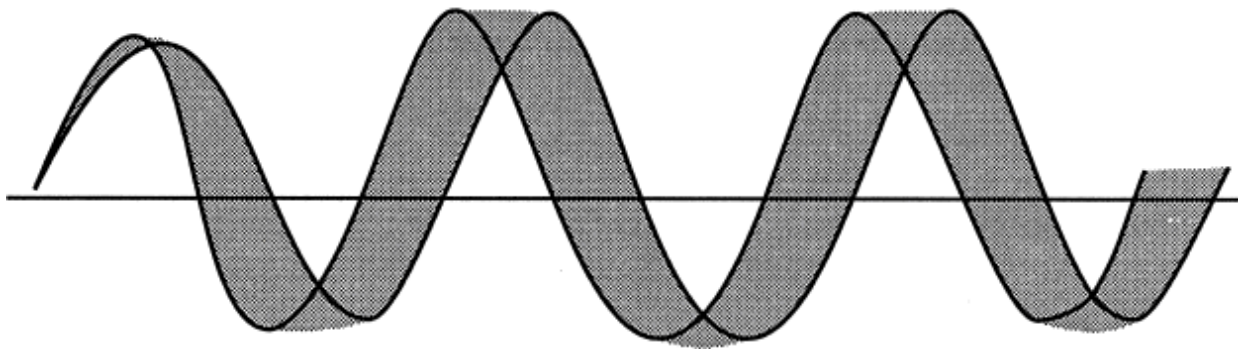

Fig. 5-2 How FM looks on an oscilloscope.
3. Slowly increase the amplitude of the modulating signal from the external function generator and set the frequency of the signal to approximately 200 Hz. As you increase the modulating signal amplitude, note the display on the oscilloscope. You should see the carrier wave begin to “vibrate,” which indicates a change in frequency with the modulating signal. You should observe a waveform that looks approximately like the one shown in Fig. 5-2. Continue slowly increasing the modulating signal amplitude and note the effect on the carrier wave. If you have difficulty obtaining a stable display, use the triggered sweep function on the oscilloscope. Manipulate the trigger and horizontal frequency controls until a stable waveform is obtained. What you are seeing is the carrier frequency being instantaneously changed by the modulating signal. While varying the amplitude of the modulating
4. Set the amplitude of the modulating signal at the 10- μ F capacitor to 2 V_{p-p}, and then observe the carrier output on the oscilloscope. You will see the waveform shown in Fig. 5-2, indicating frequency deviation. Now, while observing the waveform, vary the frequency of the modulating signal. Note the effect on the waveform. How does the deviation change with respect to the modulating signal frequency?